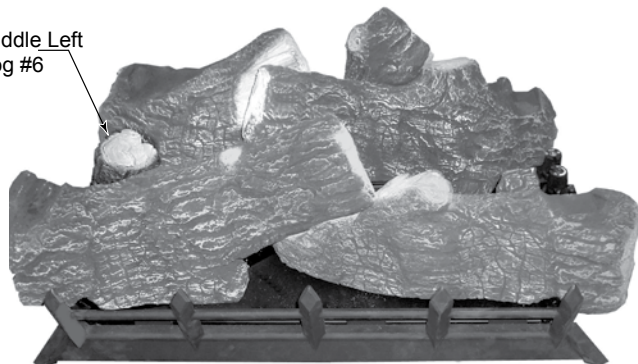

Figure 6.8 - Log #6 Placement
6. Place top left log (#6) on unit by placing grooved portion of log onto left grate bar with bark facing outward. Rest front part of log in groove on left front log. See Figure 6.8.